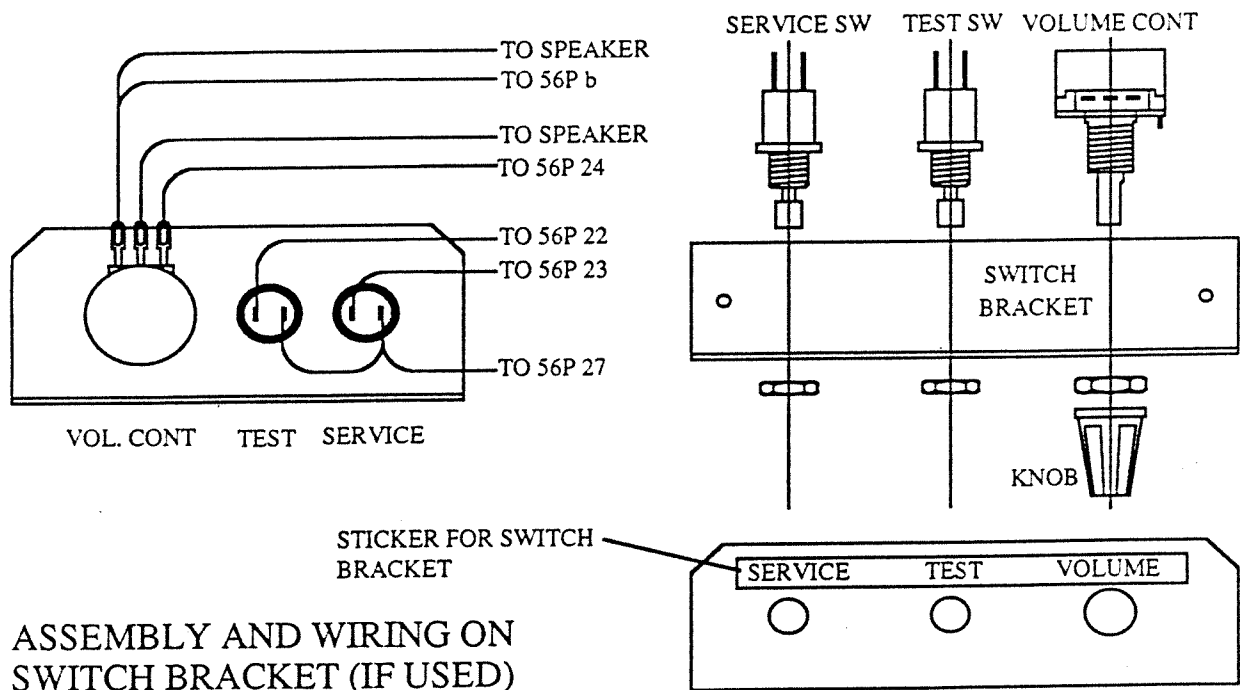

FIGURE 4
**Optional Service Switch** 12. The service and test functions along with remote volume control may be connected if this option is to be used. Use figure 4 and figure 10 for proper connection.